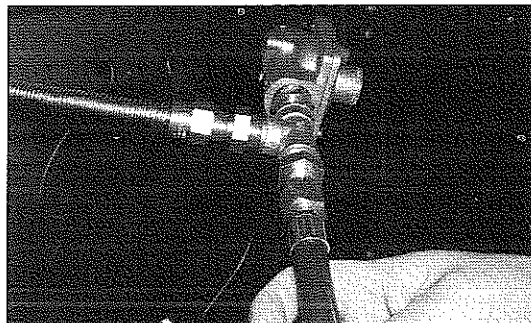

Fig 19
26. Attach the hose provided to the Connector 3/8" NPT x 5/8" UNF. Tighten with wrench. (See Fig. 19)